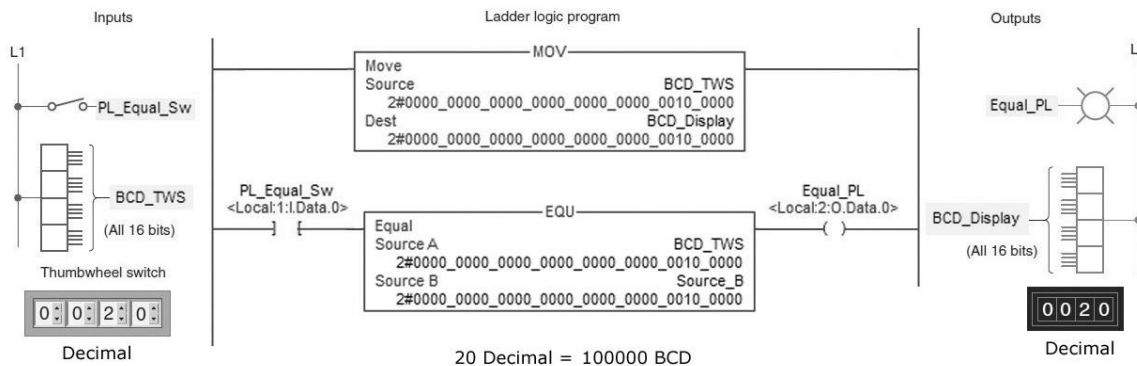

Figure 15-51 Monitoring of the setting of a thumbwheel switch program for assignment 4.
4) The program for the monitoring of the setting of a thumbwheel switch is shown in Figure 15-51 and described in the text. Prepare an I/O connection diagram and ladder logic program that will simulate its operation. Utilize field devices found on your ControlLogix installation. Enter the program into the controller, and monitor its operation.